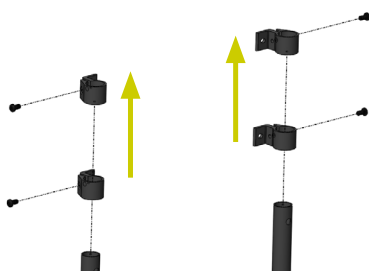

Figure 4
1. Loosen the screws that clasp the back brackets and move the brackets up along the tubes of the back frame according to figure 4.